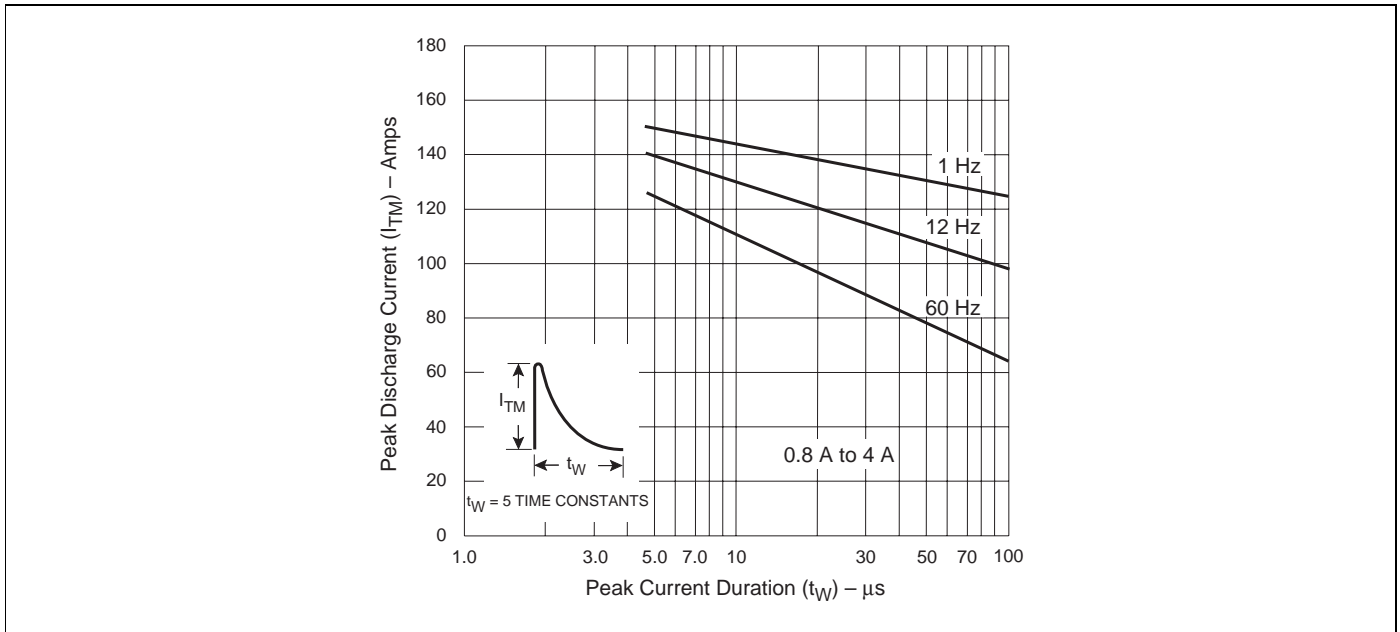
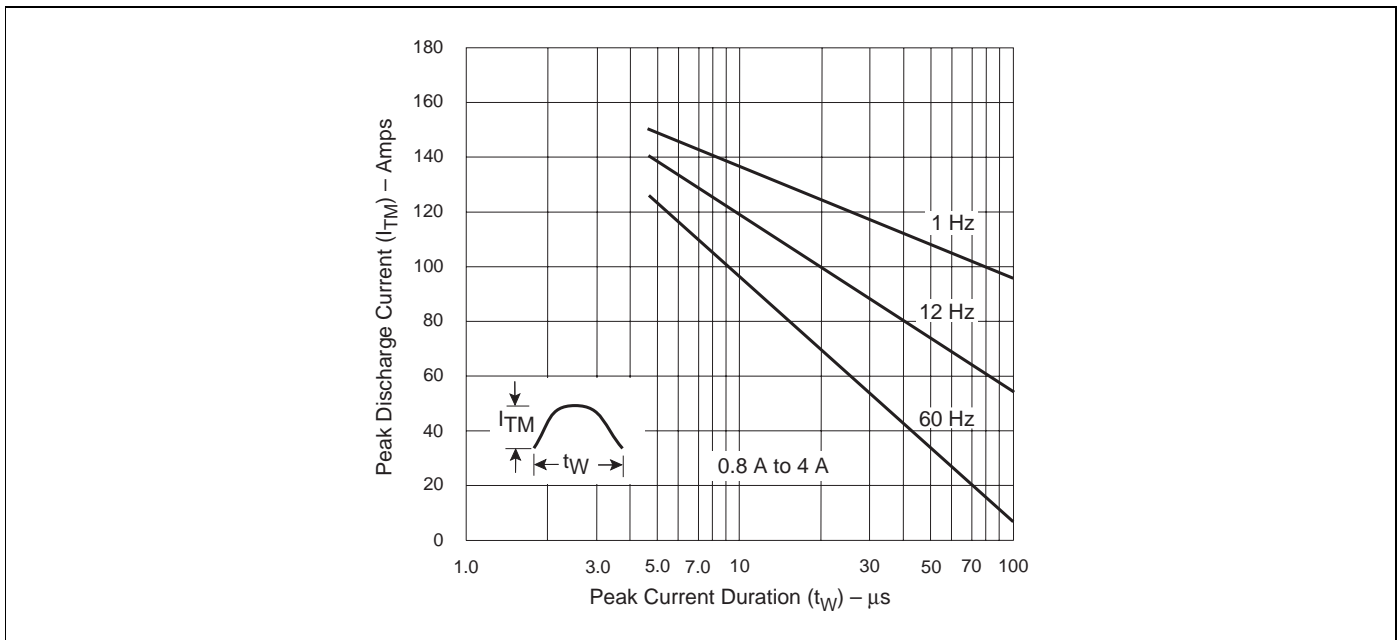

Figure E5.20 Peak Repetitive Capacitor Discharge Current
Figure E5.21 Peak Repetitive Sinusoidal Curve
- (7) 0.8 A to 4 A devices also have a pulse peak forward current on-state rating (repetitive) of 75 A. This rating applies for operation at 60 Hz, 75 °C maximum tab (or anode) lead temperature, switching from 80 V peak, sinusoidal current pulse width of 10 μs minimum, 15 μs maximum. See Figure E5.20 and Figure E5.21.